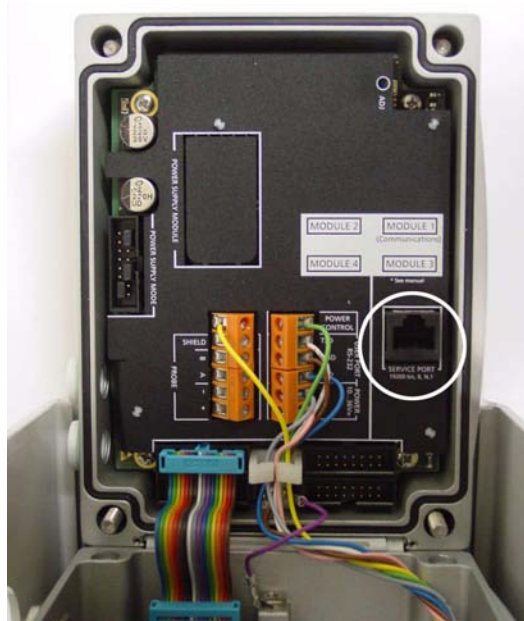

Figure 25 Service Port on the PTB330 Motherboard
2. Connect the serial interface cable (optional accessory, order code: 219685) between a USB port on your PC and the service port connector on the motherboard. See Figure 25 on page 63 for the location of the service port.